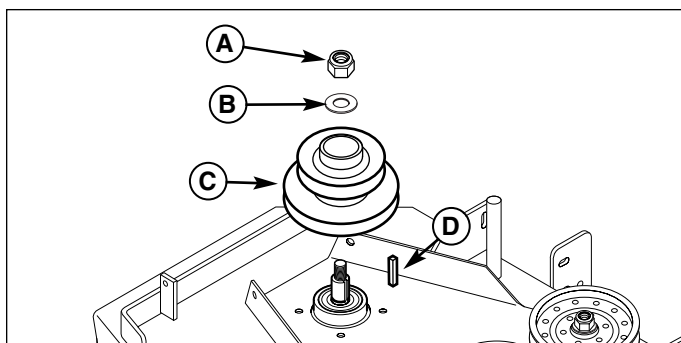

Figure 5. Install Spindle Pulley
1. Apply an anti-seize compound to the spindle shaft. Install the new, double spindle pulley (C, Figure 5) on the shaft with the smaller pulley facing up with the 5/8" nylon lock nut (A), 5/8" washer (B) and 1/4" key (D) and tighten to 85-95 ft./lbs (115-128 N.m.). Use a block of wood to keep the blade from spinning while installing and tightening the 5/8" nut.